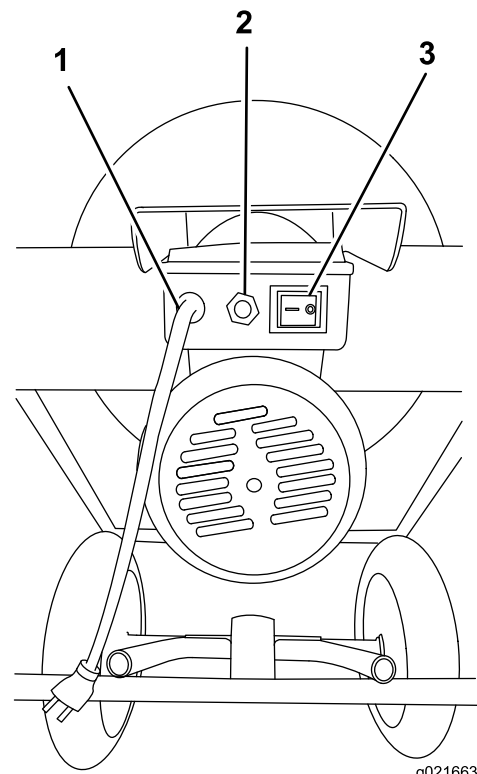

Figure 11
2. Turn the motor on by flipping the On/Off switch to the On position; refer to Figure 11.
1. Turn the motor off by flipping the On/Off switch to the Off position; refer to Figure 11.
1. Move the On/Off switch to the Off position; refer to Figure 11.
5. Press the reset button; refer to Figure 11.
7. Move the On/Off switch to the On position; refer to Figure 11.